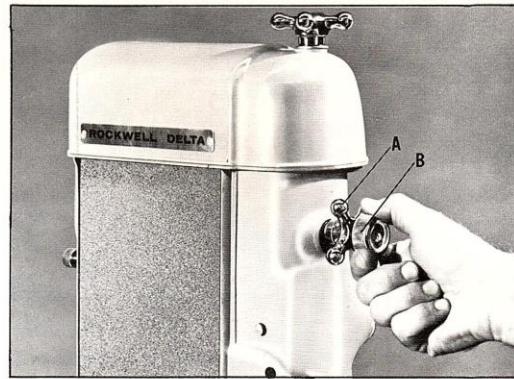

Fig. 5.
1. Loosen lock knob (A) Fig. 5.
2. If a complete resetting of the tracking adjustment is being made, the approximate position must first be set by rotating the belt by hand while turning the adjusting screw (B) Fig. 5.
3. Then while jogging the motor on and off, VERY GENTLY turn the adjusting screw (B) Fig. 5, clockwise to move the belt toward the adjusting screw and counterclockwise to move the belt away from the adjusting screw.